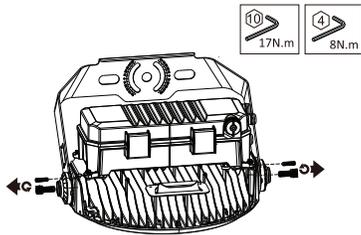

Fig. 18
1. Remove yoke mount bolts on each side (Fig. 18).